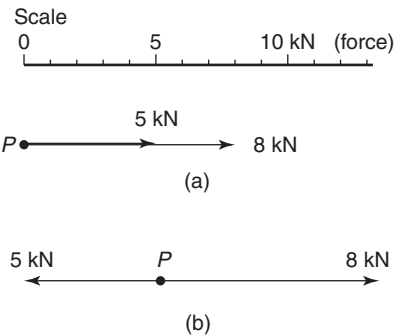

Figure 3.7
- (a) The vector diagram of the two forces acting in the same direction is shown in Figure 3.7(a), which assumes that the line of action is horizontal, although since it is not specified, could be in any direction. From above, the resultant force  $F$  is given by:
- (b) The vector diagram of the two forces acting in opposite directions is shown in Figure 3.7(b), again assuming that the line of action is in a horizontal direction. From above, the resultant force  $F$  is given by: